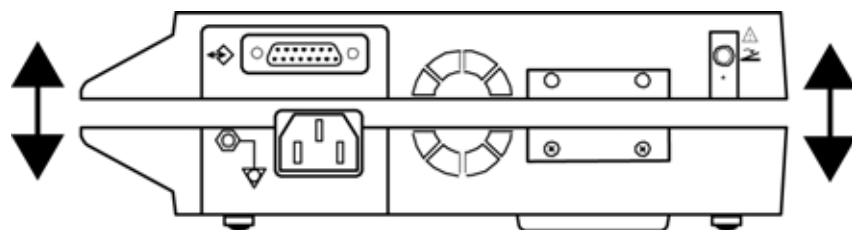

Figure 15: Top Case Removal
5. Carefully separate the N-550's top case from its bottom case, being careful not to stress the wire harnesses between the cases. See Figure 15.